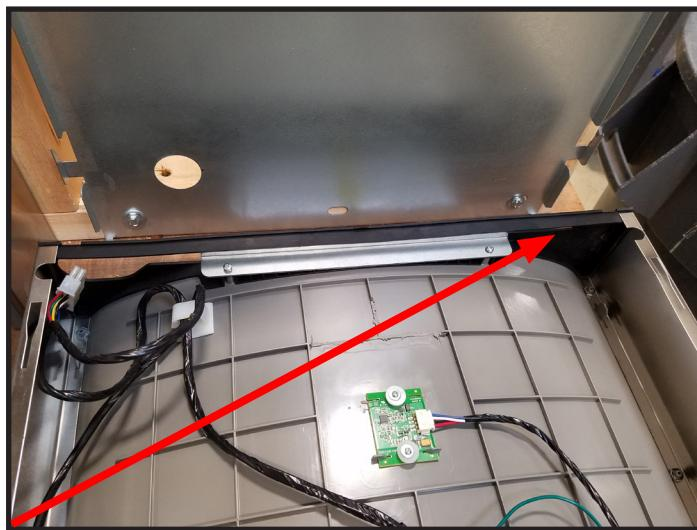

Fig. 4
12) Install gasket on bottom of bottle filler tower with gasket support bracket & (2) screws. (See Fig. 4, Pg. 5).